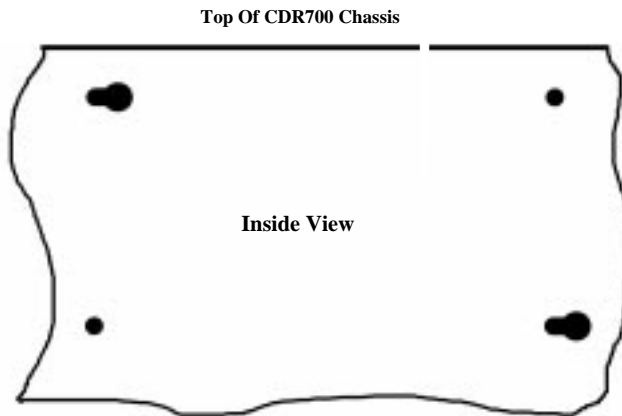

Figure 3-7. CDR700 Battery Revert Mounting Hole Pattern (Inside View)
4. The module mounts near the top center of the back wall of the inside, above the fan assembly of the CDR700 chassis. Observe the hole pattern shown in Figure 3-7.